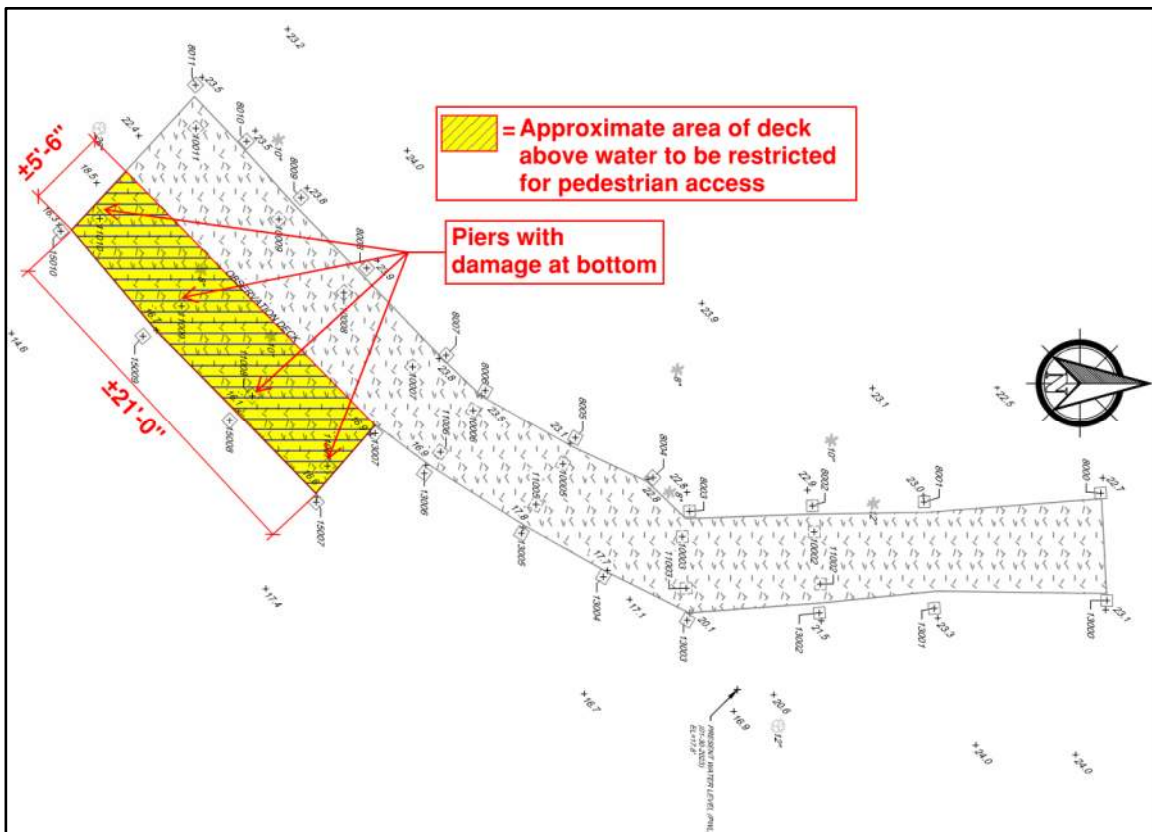

Figure 1 – Observation Deck Showing the Region to be Restricted for Access
1. Immediately restrict access at least for a partial area of the deck that is supported on the damaged (4) piles. See the below **Figure 1** for the approximate region of deck that needs to be restricted for access.